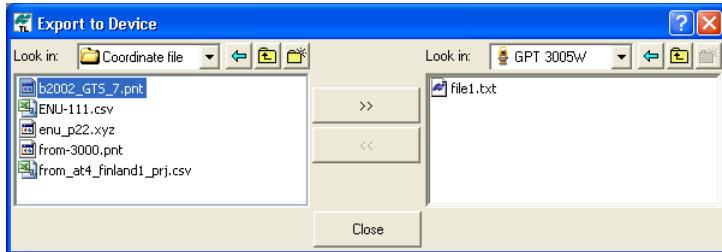

Figure 2-50. Export From Device Window
- Double-click the *Topcon Total Stations* in the right panel of the *Export to Device* dialog box, select the desired Total station and double click the icon (Figure 2-50 on page 2-31). In the left panel of the *Export to Device* window select a coordinate file for export.